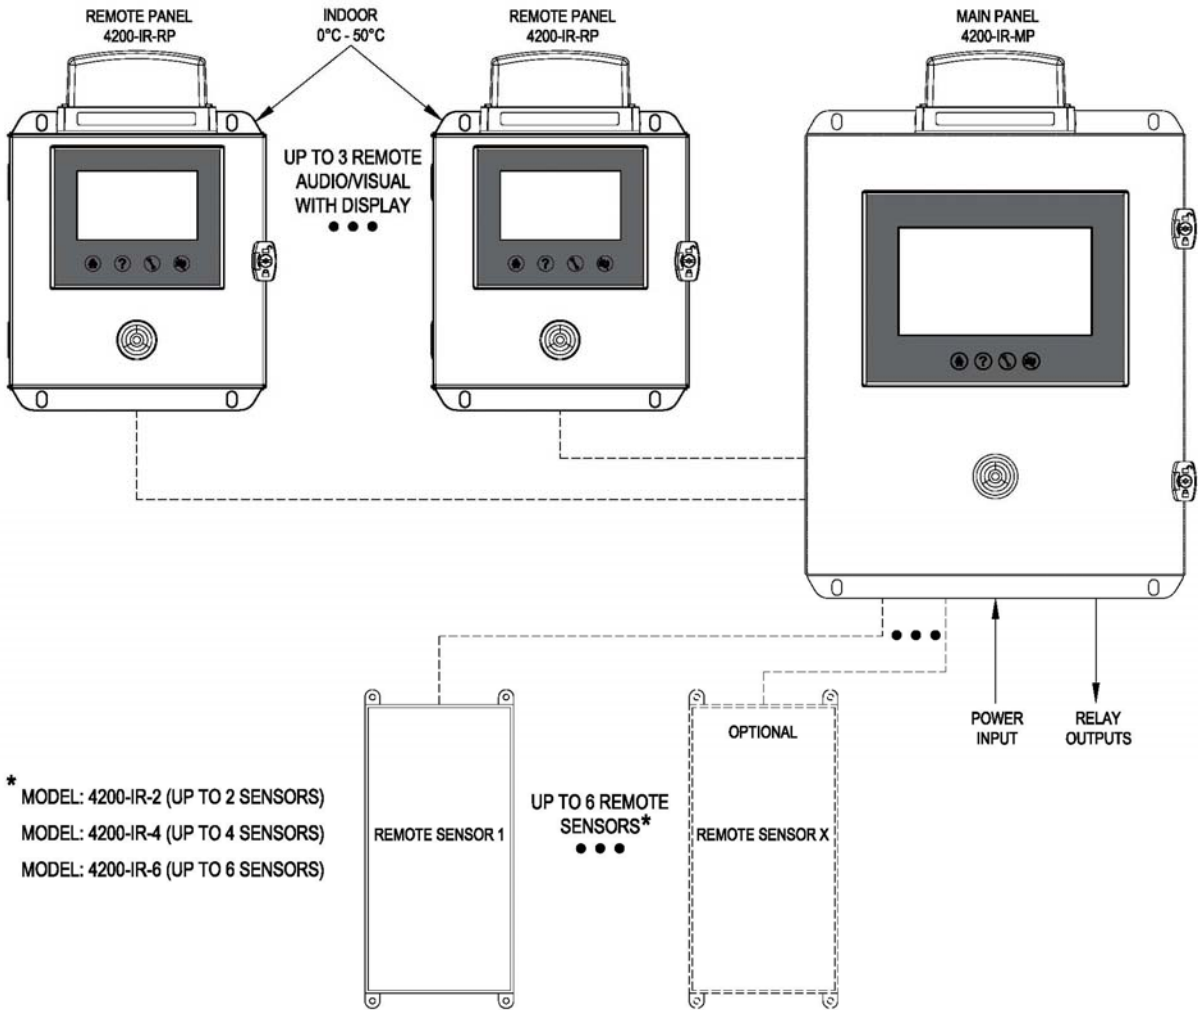

Figure 1 – System Overview
- Figure 1 – System Overview 4